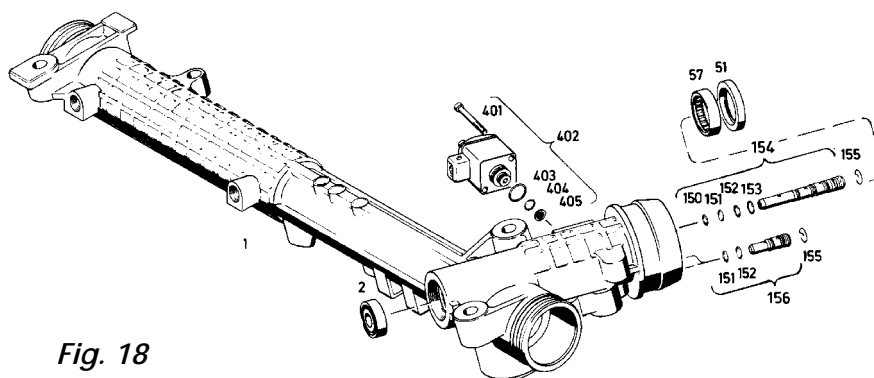

Fig. 18
Using tool [11], press the roller bearing (57) and the shaft seal (51) into the housing (1) until they are in perfect contact with the housing (1) (**Fig. 18**).
Put the O-rings (403 and 404) on the transducer (402) (**Fig. 18**).
Put the O-rings (150, 151, 152 and 153) on the cut-off valve (154) and the check valves (156) (Fig. 18).